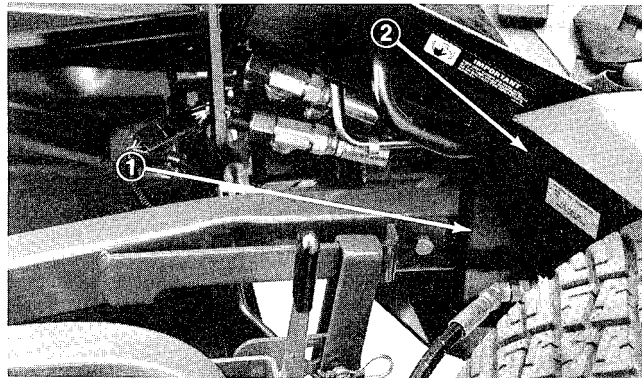

Figure 62
2. Disconnect (3) hydraulic lines (quick couplers) and wire harness at rear of deck.
4. Remove (2) capscrews and locknuts securing cutting unit carrier frames to traction unit lift arms (Fig. 62).